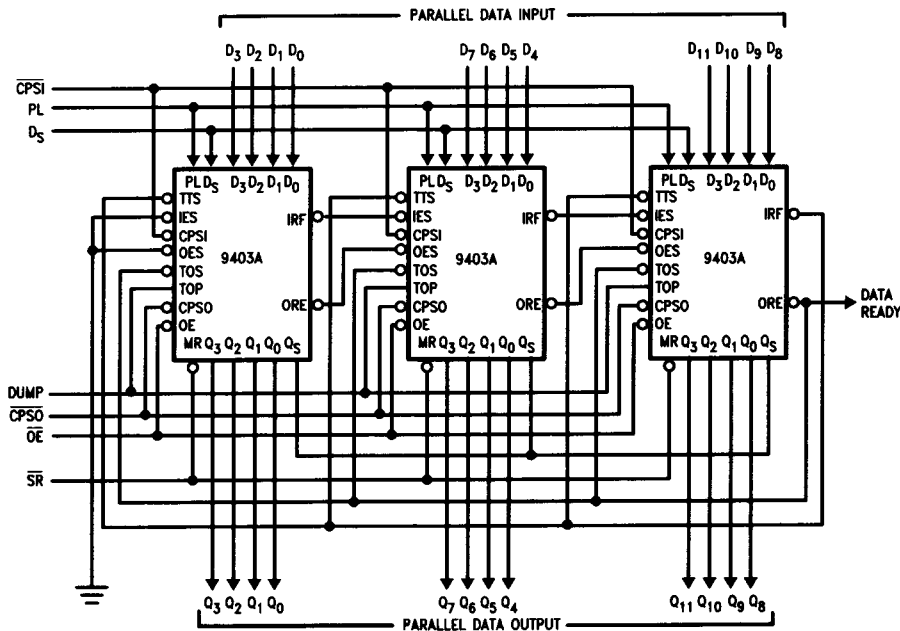

FIGURE 5. A Horizontal Expansion Scheme
**Horizontal Expansion**—The 9403A can also be horizontally expanded to store long words (in multiples of four bits) without external logic. The interconnections necessary to form a 16-word by 12-bit FIFO are shown in *Figure 5*. Using the same technique, any FIFO of 16 words by  $4n$  bits can be constructed, where  $n$  is the number of devices. The  $\overline{\text{IRF}}$  output of the right most device (most significant device) is connected to the  $\overline{\text{TTS}}$  inputs of all devices. Similarly, the  $\overline{\text{ORE}}$  output of the most significant device is connected to the  $\overline{\text{TOS}}$  inputs of all devices. As in the vertical expansion scheme, horizontal expansion does not sacrifice any of the 9403A's flexibility for serial/parallel input and output.